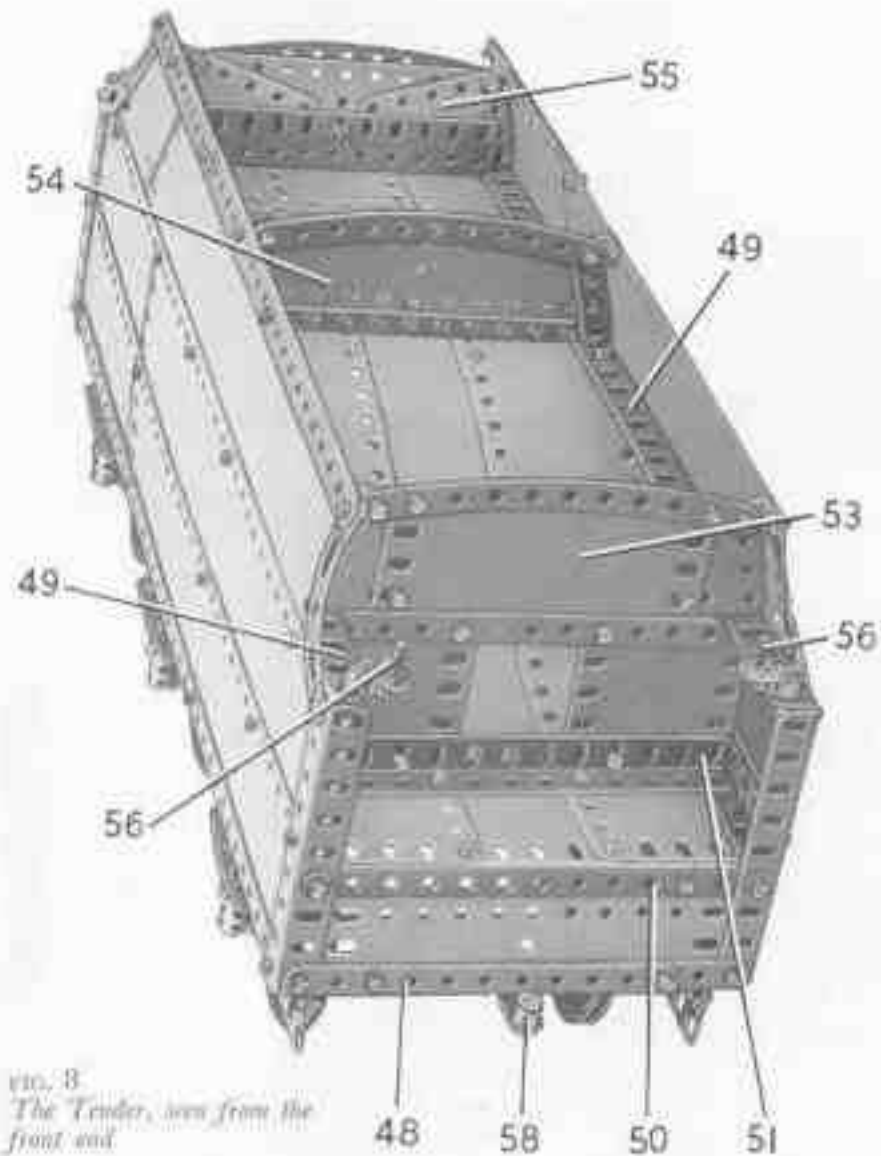

FIG. 8
Building the Tender (Figs. 8 and 9)
The partition (53) (Fig. 8) is made by bolting two $2\frac{1}{2}$ " x $2\frac{1}{2}$ " Flexible Plates to the
The coupling for attaching the tender to the locomotive consists of a Threaded Pin (57) (Fig. 7), supported by a 1 " x 1 " Angle Bracket. The Threaded Pin engages a Crank (58) (Fig. 8) that is lock-nutted to the front of the tender.